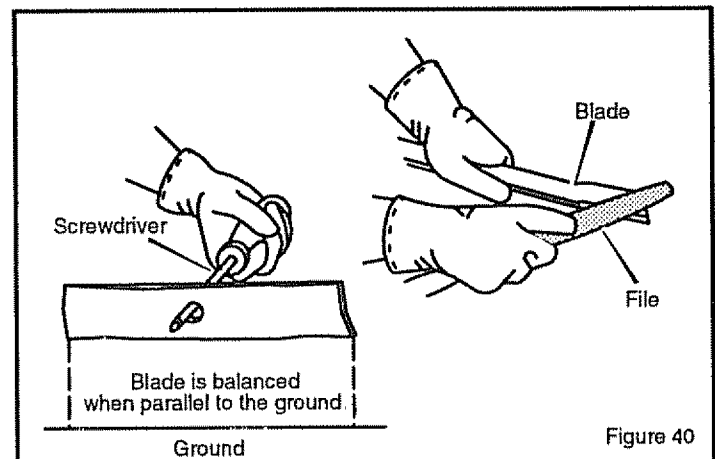

Figure 40
4. Sharpen the blade with a file (Figure 40). Make sure you keep the original bevel angle.
5. Make sure the blade is balanced. Use a screwdriver and hold the blade parallel to the ground (Figure 40). A blade that is balanced will stay parallel to the ground. If the blade is not balanced, the heavy end will rotate toward the ground. Sharpen the heavy end until the blade is balanced.